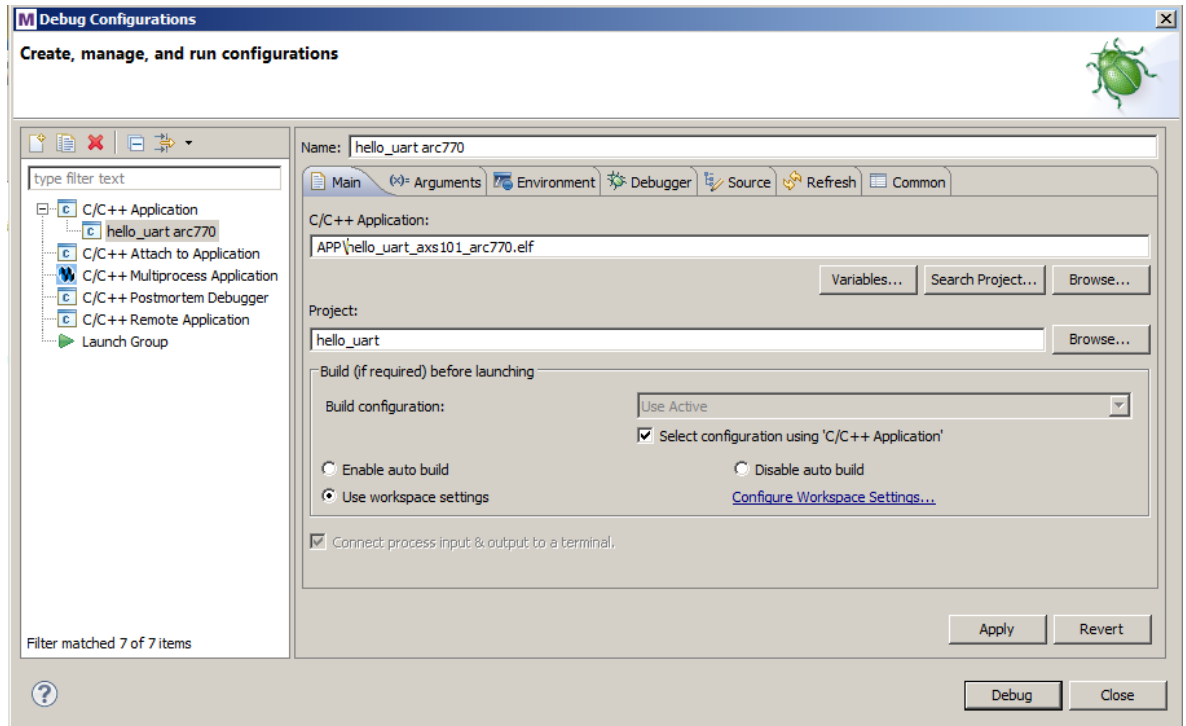

Figure 69 MetaWare IDE – Setting up the debug configuration
4. Double click on **C/C++ Application** to create a new debug configuration for the project or select an existing debug configuration. Select the **Main** tab and enter a name of your choice in the **Name** field. It is recommended to compose the name from the project name and the ARC core. Enter the name of the elf-file (with or without HOSTLINK) in the **C/C++ Application** field and enter the application name in the **Project**. See Figure 69 for an example.